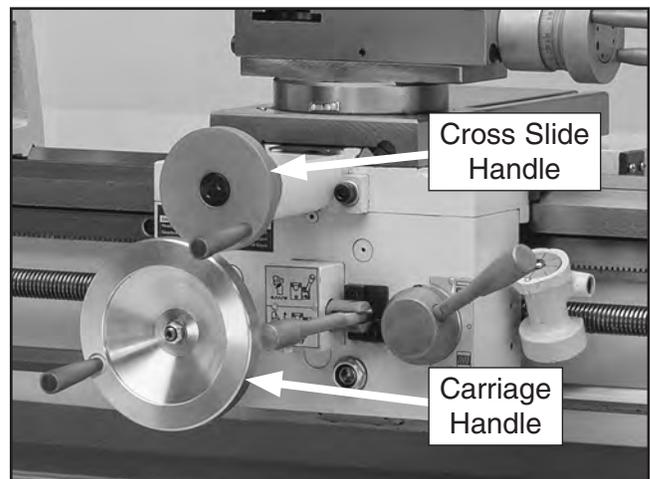

Figure 16. Handwheels installed.
7. Thread handles into carriage and cross slide handwheels, as shown in **Figure 16**.